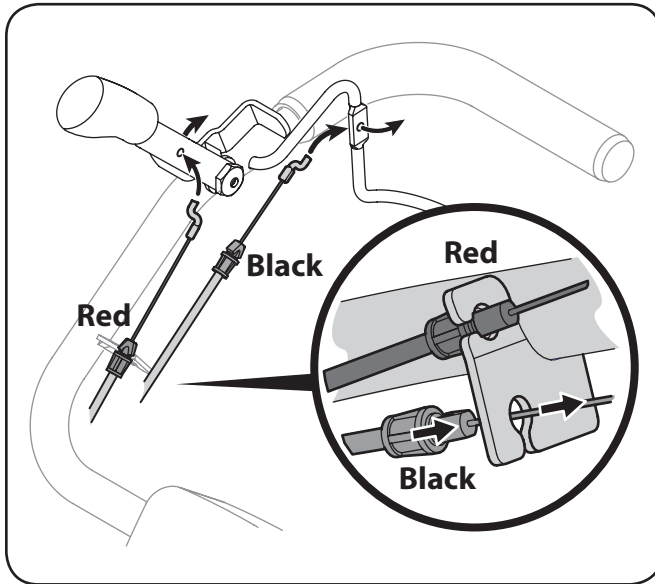

Figure 3-2
1. Route the forward (black) clutch cable along the handle assembly on the right-hand side. See Figure 3-2.
2. Connect the forward clutch cable to the forward clutch bail by feeding the z-hook through the hole on the bail from the outside towards the inside. See Figure 3-2.
3. Snap the cable housing clips into the handle assembly cable mount as shown in Figure 3-2. The clip feeds into the lower position on the handle assembly. See Figure 3-2.
4. Route the reverse (red) clutch cable along the handle assembly on the right-hand side. See Figure 3-2.
5. Connect the reverse clutch cable to the reverse clutch handle by feeding the z-hook through the hole on the handle from the inside towards the outside. See Figure 3-2.
6. Snap the cable housing clips into the handle assembly cable mount as shown in Figure 3-2. The clip feeds into the upper position on the handle assembly.